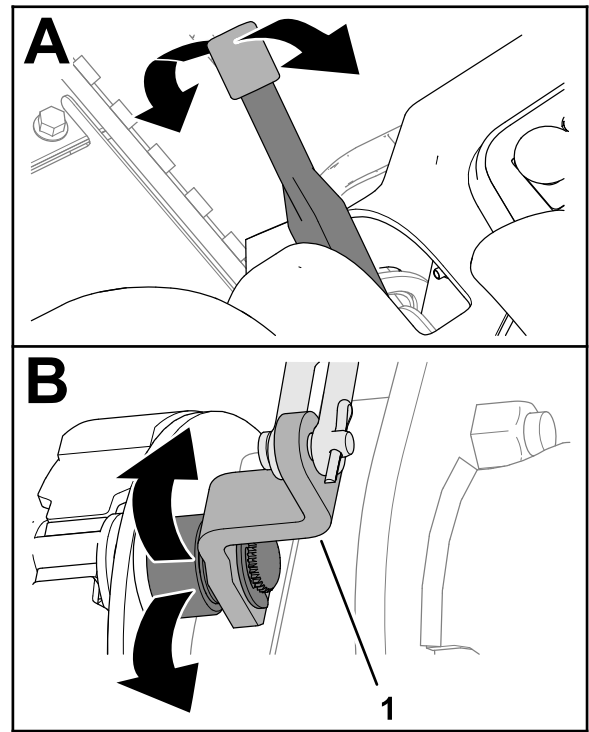

Figure 69
2. Move the parking brake lever up and down to check that the lever for the brake-cam lever moves freely (Figure 69).